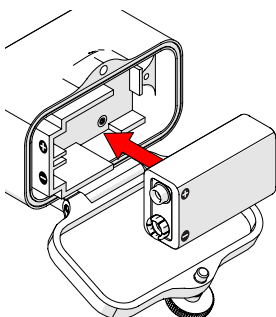

Fig. 35 - Place 9V battery in housing
3. Place the new 9V NEDA 1604 battery into the battery compartment. Ensure the polarity markers match (Fig. 35).